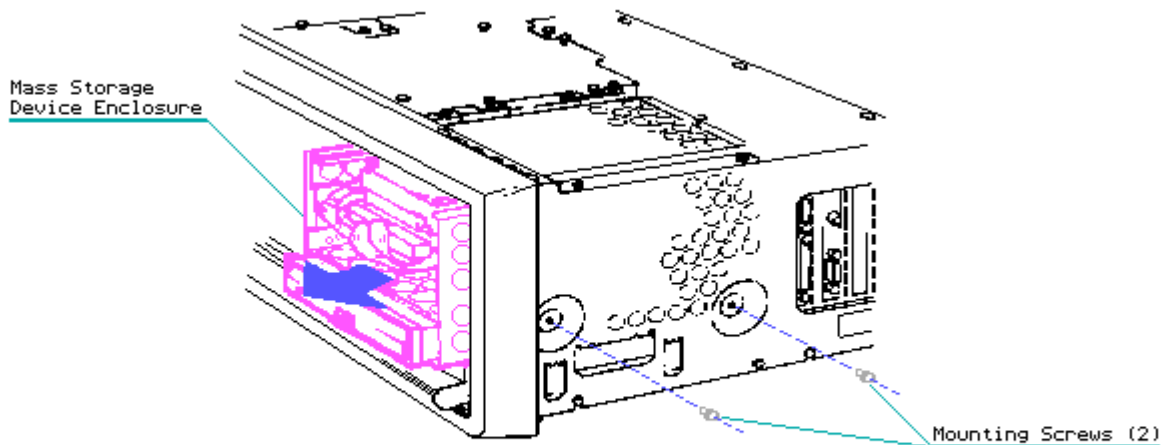

Figure 7-55. Removing the Mass Storage Device Subassembly Enclosure Mounting Screws
4. Using a Torx screwdriver, remove the two screws on the right side of the system chassis and the four screws on the top of the mass storage device enclosure. These screws secure the mass storage device subassembly enclosure to the system chassis (Figure 7-55).